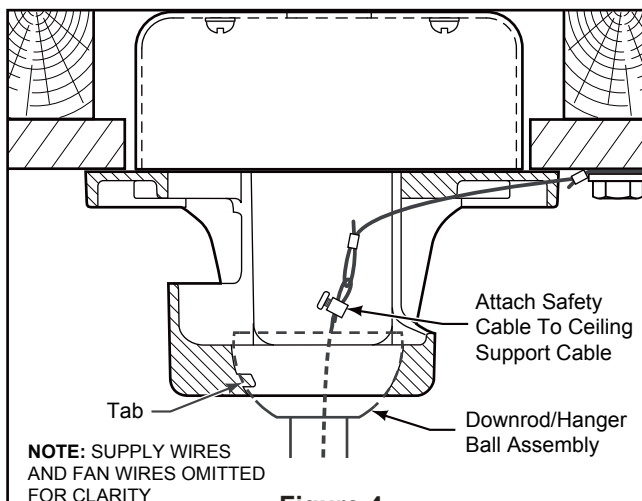

Figure 4
4. Slide downrod into the downrod support on top of the motor. Install the clevis pin by aligning the holes in the downrod support with holes in the downrod. Secure clevis pin with hairpin clip. Install the two set screws with nuts in the downrod support. Securely tighten the set screws with screwdriver then fully tighten the nuts using the hex wrench. (Figure 4)
- ☐ 4. Carefully lift the fan and seat the downrod/hanger ball assembly onto the hanger bracket that was just attached to the outlet box. Be sure the groove in the ball is lined up with tab on the hanger bracket. (Figure 4)
- ☐ 5. Attach the safety cable to ceiling support cable. Slide cable clamp and washer onto safety cable (from fan). Place the end of cable through the loop of ceiling support cable. Pull as much cable through loop as possible. Feed end of cable into clamp hole and firmly tighten screw. (Figure 4)
3. Connect wires using connectors as shown in Figure 4.